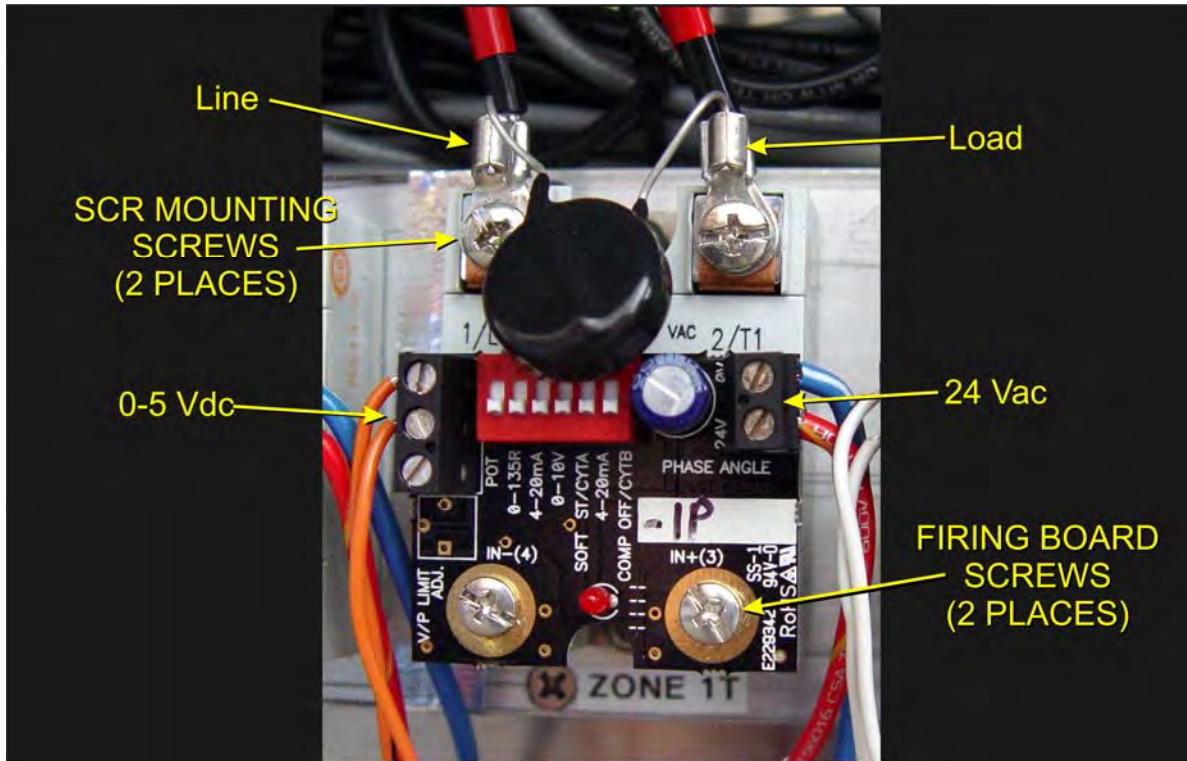

Figure 3-35 SCR installed
To remove the entire SCR assembly, disconnect the 10Vdc and the 24 Vac wire pairs. Unscrew the Line and Load wires. If you are only replacing the firing board, remove the (2) firing board screws. If you are removing the entire assembly, remove the (2) SCR Mounting screws. See **Figure 3-35 SCR installed**